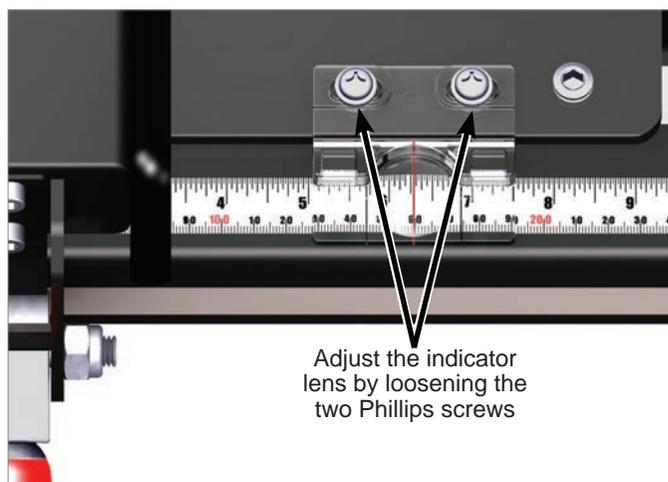

Fig. 35
- i. If necessary, you can adjust the position of the indicator lenses on the front of the fence. To verify the position of each indicator lens, clamp the fence to the front tube and use a ruler to measure the distance from the blade to the fence plate and compare it to the measurement shown on the proper indicator lens. If adjustment is necessary, loosen the two Phillips screws shown in Fig. 35 and slide the indicator lens to the right or left until the cursor is directly over the correct measurement. Tighten the screws to lock the position of the indicator lens.